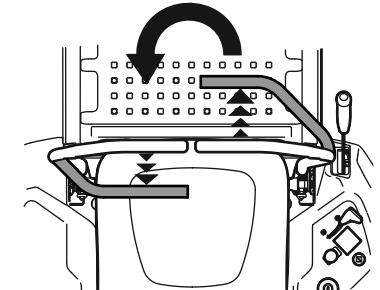

Figure 26
3. To turn counterclockwise, move the lapbar right drive control lever forward while simultaneously moving the left lapbar drive control lever rearward. See Figure 26.